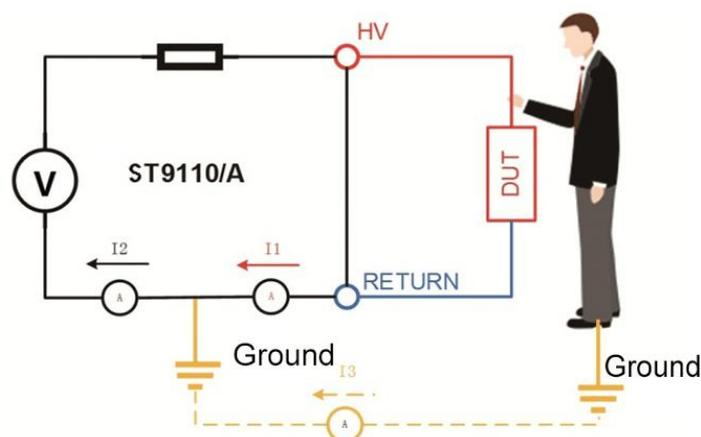

Figure 4-5
- When the electric shock protection is set to ON, when the operator is in contact with the high voltage output terminal, as shown in Figure 4-5, the current meter measures different current values respectively, then the current flowing through the body $I_3 = I_2 - I_1$; when I_3 exceeds the limit, the high voltage output is immediately cut off to protect the safety of the operator.